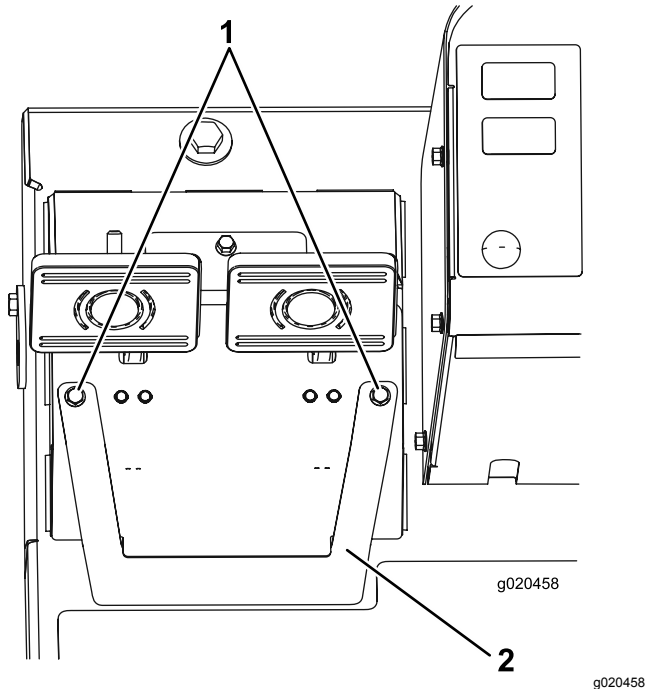

Figure 93
- A. Loosen the 2 mounting screws and remove the brake adjustment cover (Figure 93).